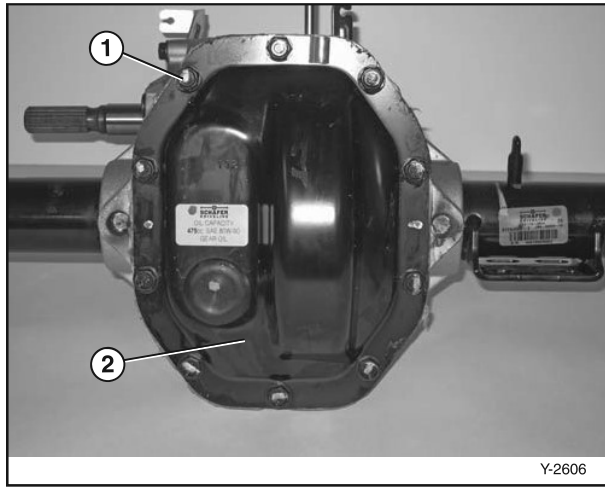

Figure 6-39
3. Remove the bolts (Figure 6-39, (1)) and remove the differential cover (Figure 6-39, (2)).